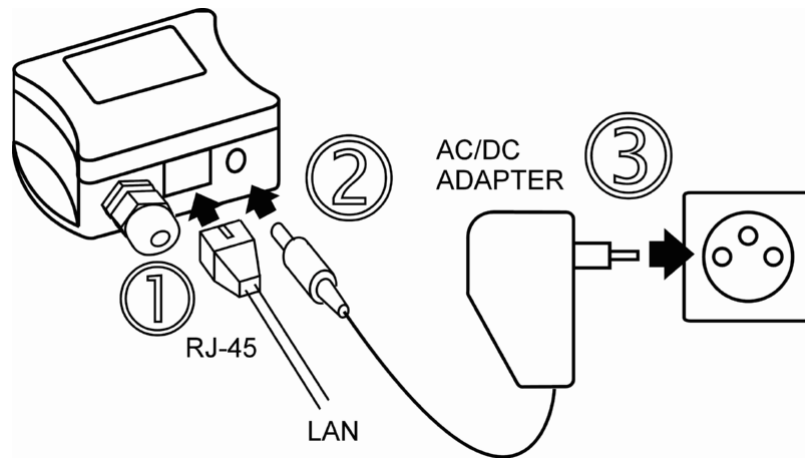

Figure 4. – connection of the T4511 transducer
- connect the LAN connector (Figure 4)